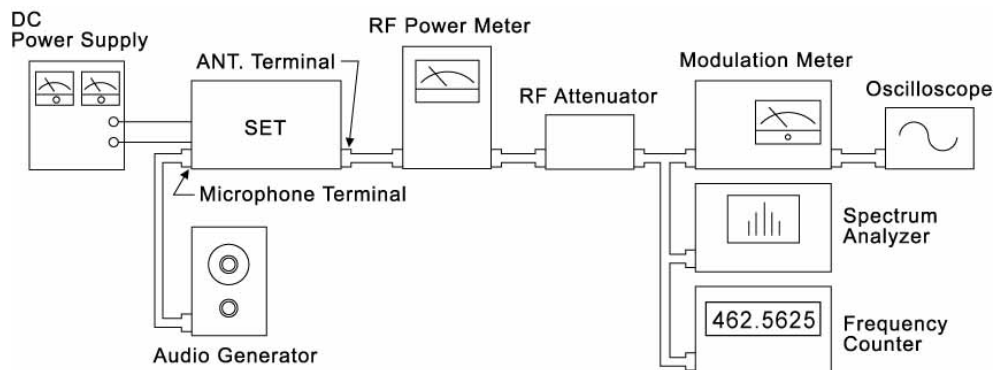

FIGURE 2
2. Adjust R14 if CTCSS or DCS is used. For narrow band it should be within the range of 250Hz to 500Hz. If programmed for wide band adjust it within the range of 500Hz to 1000Hz. See Figure 2 for equipment setup.